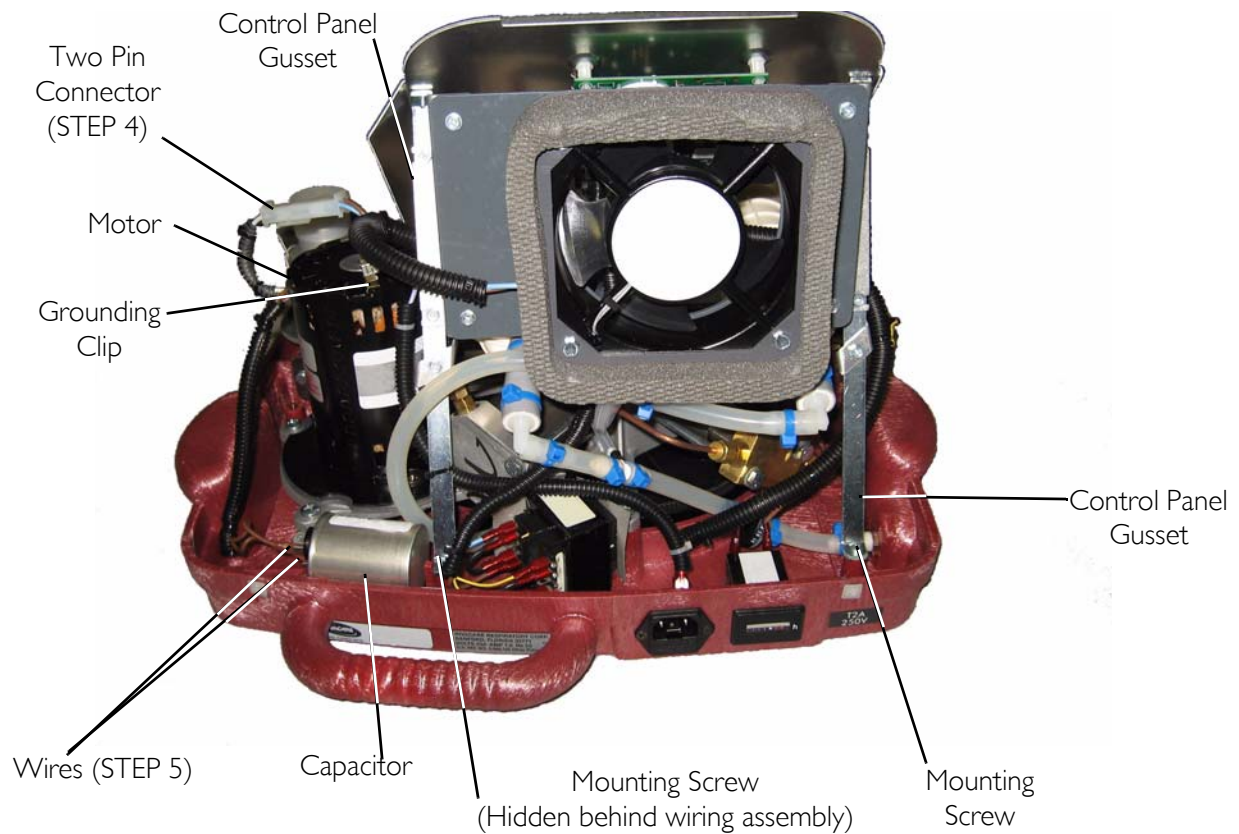
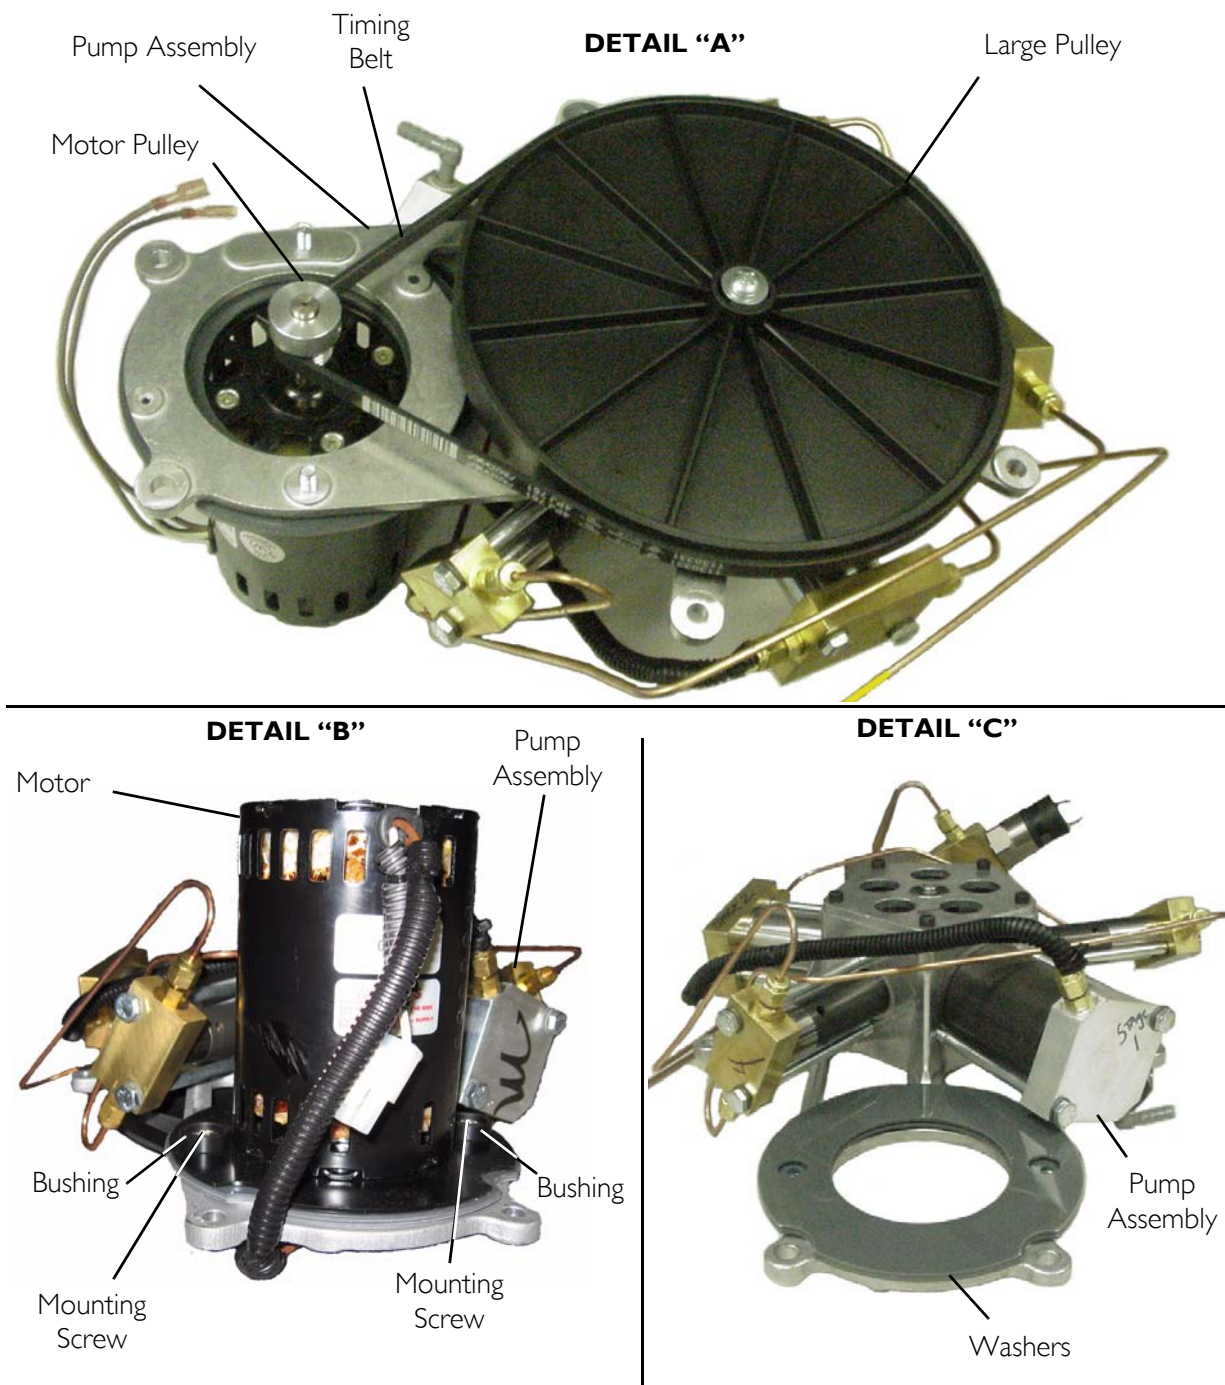

FIGURE 9.1 Motor Replacement on HomeFill Units Made On Or After 8/1/05
FIGURE 9.6 Motor Replacement
NOTE: For this procedure, refer to FIGURE 9.1 through FIGURE 9.6.
5. Disconnect the two pin connector that connects the motor to the wiring harness (FIGURE 9.1).
6. Using needle nose pliers, disconnect the two wires from the capacitor (FIGURE 9.1).
7. Using needle nose pliers, disconnect the grounding clip from the motor (FIGURE 9.1).
11. Remove the two screws that secure the control panel gussets to the rear of the base assembly (FIGURE 9.1).
25. Remove the timing belt by gently pulling the belt away from the large pulley and motor pulley. Refer to Detail "A" in FIGURE 9.6.
27. Remove the two mounting screws, two bushings, and two washers that secure the motor to the pump assembly. Refer to Detail "B" and "C" in FIGURE 9.6.
1. Position the washers on the pump assembly. Refer to Detail "C" in FIGURE 9.6.
2. Position the motor on the pump assembly. Refer to Detail "B" in FIGURE 9.6.
3. Secure the two washers and motor to the pump assembly with two mounting screws and two bushings. Torque mounting screws to 60-70 in-lbs (6.78-7.9 Nm). Refer to Detail "B" in FIGURE 9.6
4. Install the belt over the large pulley and the small motor pulley. Refer to Detail “A” in FIGURE 9.6.
17. Secure the control panel gussets to the rear of the base assembly with two mounting screws (FIGURE 9.1).
21. Connect the grounding clip to the motor (FIGURE 9.1)
22. Connect the two wires to the capacitor (FIGURE 9.1)
23. Connect the two pin connector that connects the motor to the wiring harness (FIGURE 9.1).